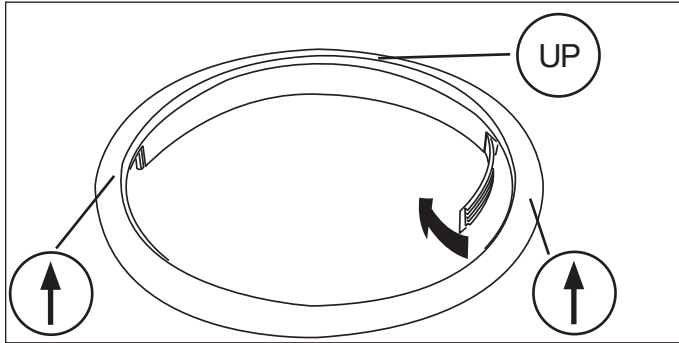

Figure 2-45.
2. Remove the trim ring cover plate. To remove the cover plate from the right, pivot point is up. To remove the cover plate from the left, pivot point is down. (See Figure 2-45)